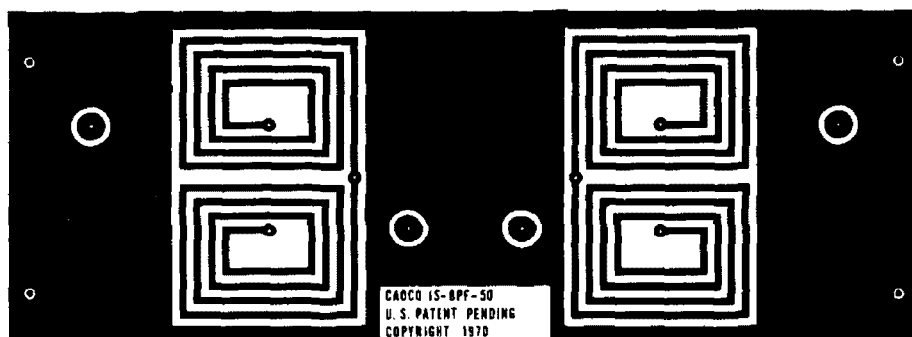

fig. 3. Half-size layout of the 50-MHz bandpass filter board.
- L1, L3, L4, L6 etched inductances on printed-circuit board (fig. 3)
Etched-inductance interdigital bandpass filters for 50 and 144 MHz are shown in the photographs. A half-size layout of the 50-MHz board is shown in fig. 3; a half-size layout of the 144-MHz board is shown in fig. 4. Parts lists for the two boards are given in tables 1 and 2, respectively, for the 50- and 144-MHz filters. Commercially-made printed-circuit boards and complete parts kits are available.*